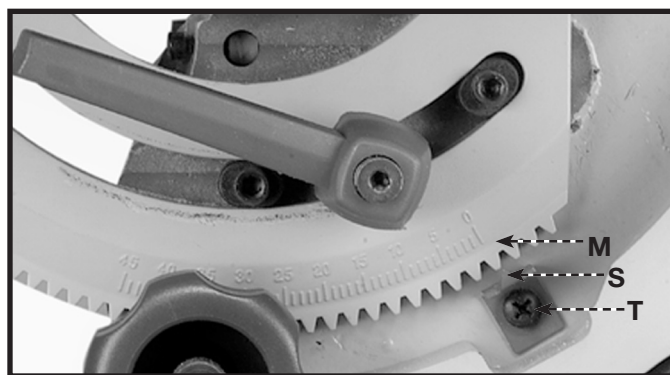

Fig. 16
9. Loosen the screw (T) Fig. 16 and align pointer (S) with "0" mark on the trunnion scale (M). Tighten securely.